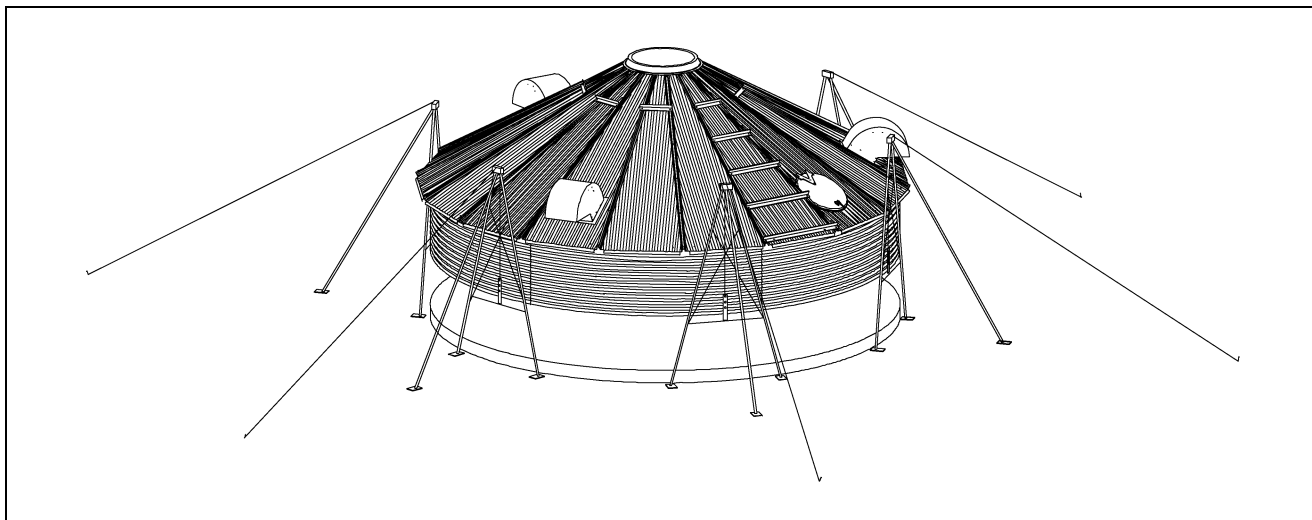

Figure 3A Lifting Jack
1. Before constructing the bin, consider the location of the door and other accessories. Proper placement of lifting jacks in relationship to anchor bolts could make a difference on odd or even ring bins. Walk-through door is centered between two (2) stiffener anchor bolts. The sidewall sheets are also staggered 1/3 from end to end.
3. Raise the bin just high enough to assemble the next ring. When lifting the bin, **crank all jacks equally**. This will prevent bowing the previously assembled rings and make for easier hole alignment. (See Figure 3A.)